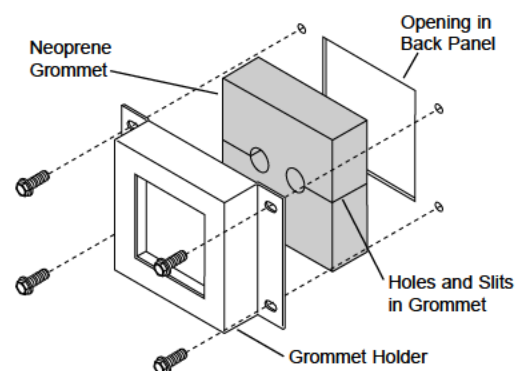

Figure 3-Cable Grommet
1. Remove cable grommet holder from back panel (refer to Figure 3).